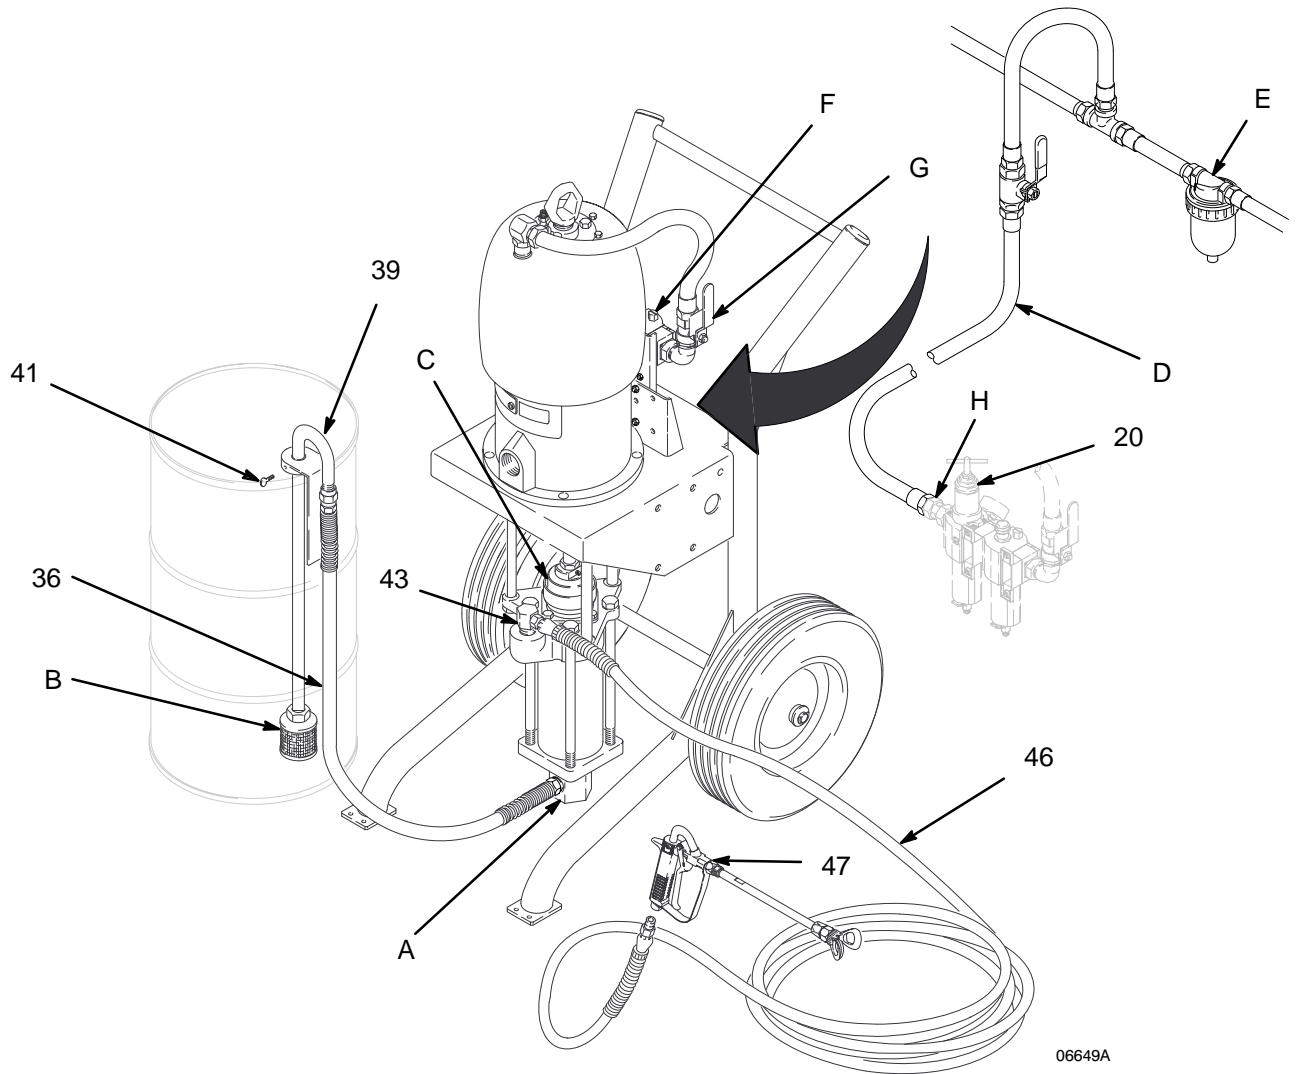

Fig. 2
See Fig. 2. Connect the suction hose (36) between the pump inlet (A) and the suction tube (39), using thread sealant on the male threads. Screw on the suction tube filter (B). Place the suction tube in the supply drum, and adjust it so it is 1 in. (25 mm) off the bottom of the drum. Tighten the thumbscrew (41) of the pipe hanger onto the drum.
See Fig. 2. To start the pump, close the air shutoff valve (G), close the air regulator (20) by turning the t-handle all the counterclockwise until the spring tension is relieved. Open the shutoff valve, hold a metal part of the gun firmly to the side of a grounded metal pail, trigger the gun, and slowly open the regulator until fluid comes from the gun. Release the trigger; the pump will stall against pressure.
Keep the displacement pump wet-cup (C) 1/2 full at all times. The TSL helps protect the pump packings. See Fig. 2.